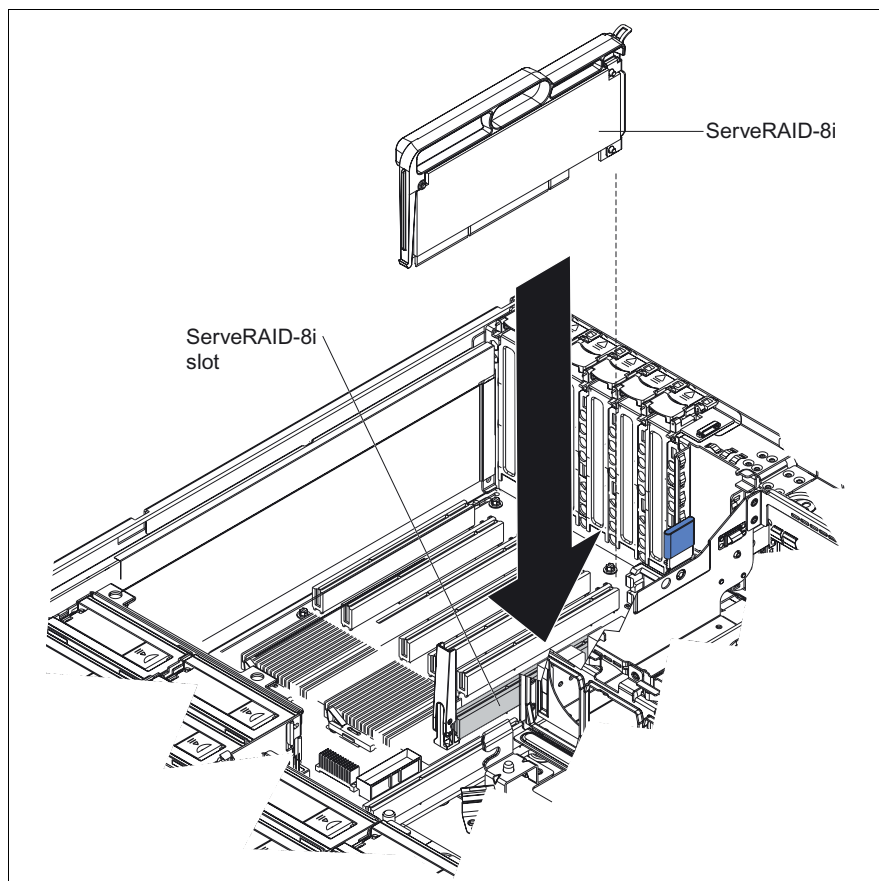

Figure 22: Installing a ServeRAID-8i adapter
- The ServeRAID-8i adapter can be installed only in a dedicated slot on the PCI-X board (see figure 22).
- Position the ServeRAID-8i adapter so that the metal locking clasp is at the rear of the server; then, press the ServeRAID-8i adapter firmly into the connector (see figure 22).